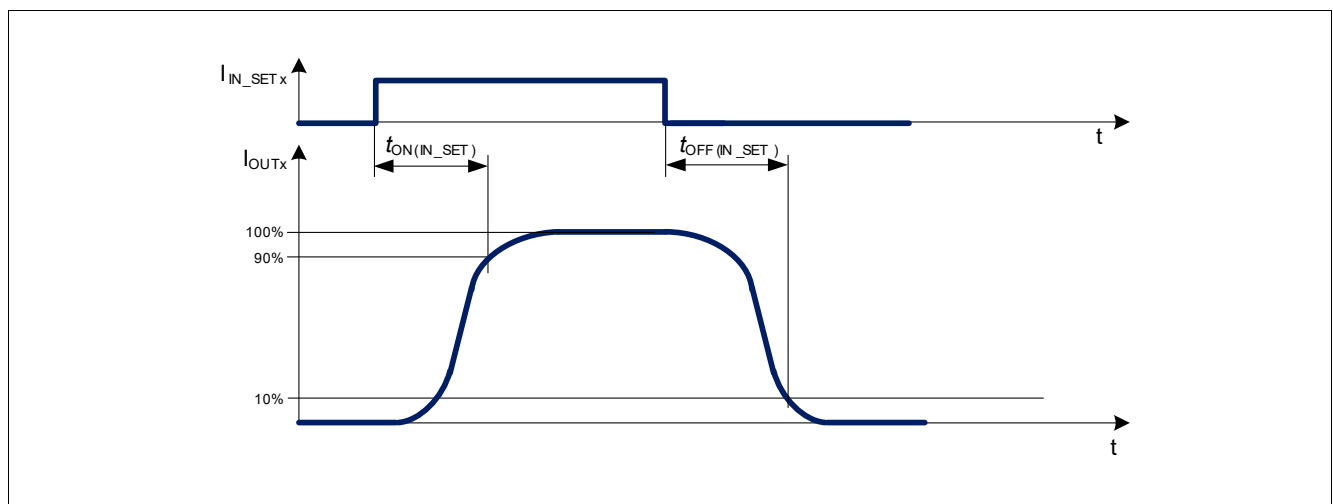
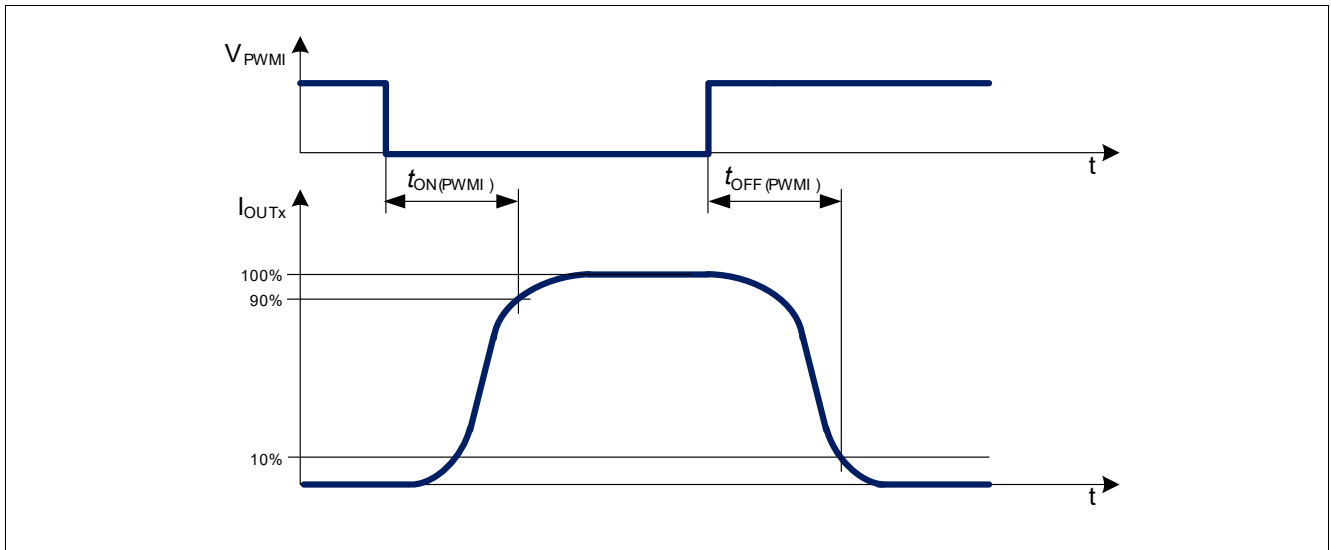

Figure 10 IN_SET turn on and turn off delay timing diagram
Figure 11 PWMI turn on and turn off timing diagram
In the following diagrams (Figure 10, Figure 11) the influences of different driving inputs on output activation delays are shown.
- 2) Refer to Figure 10
- 3) Refer to Figure 11